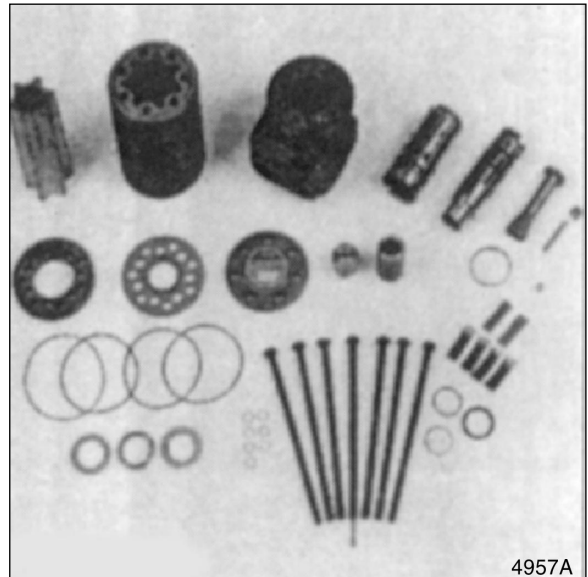

Figure 27
19. Figure 27, shows all parts removed from steering unit. Clean all parts before assembly. Use only new O-rings and seals.